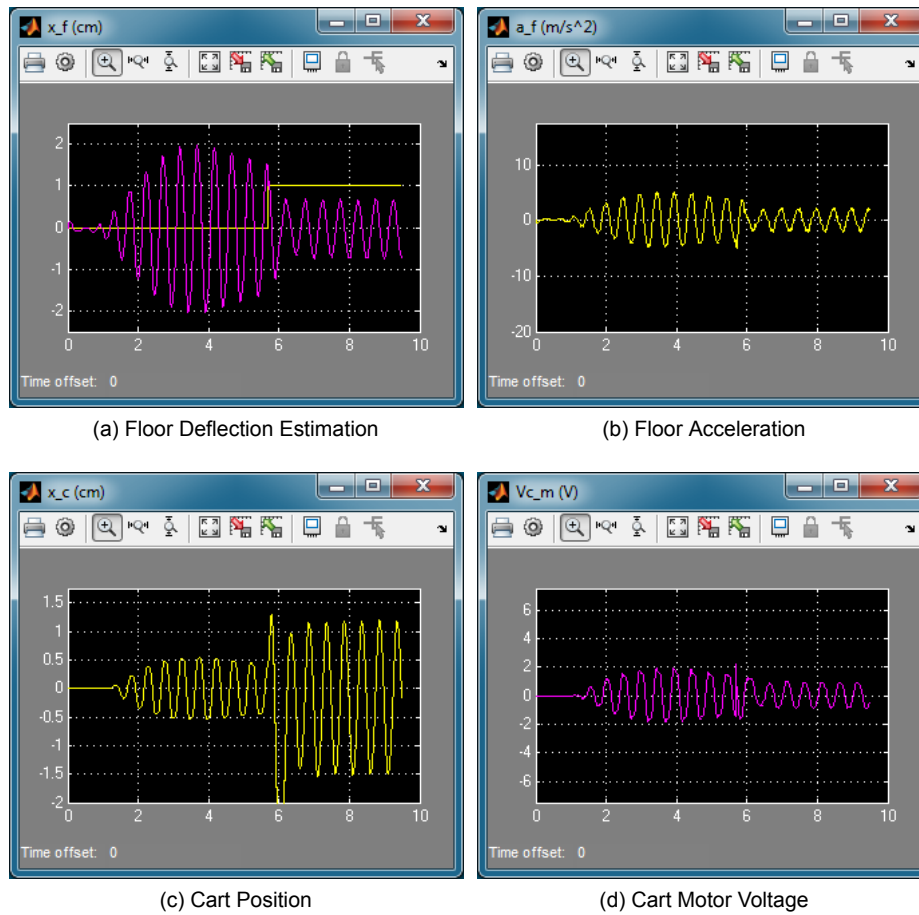

Figure 3.12: AMD scopes when turning ON the active mass damping
11. Sample responses when the AMD-1 is turned on are shown in Figure 3.12. When the AMD is activated, just before the 6 second mark, the cart position (blue) increases to compensate for the motions of the structure. The floor deflection then reduces from  $\pm 1.4$  cm to about  $\pm 0.7$  cm and the floor acceleration drops from  $\pm 5$  m/s2 down to  $\pm 2.5$  m/s2.